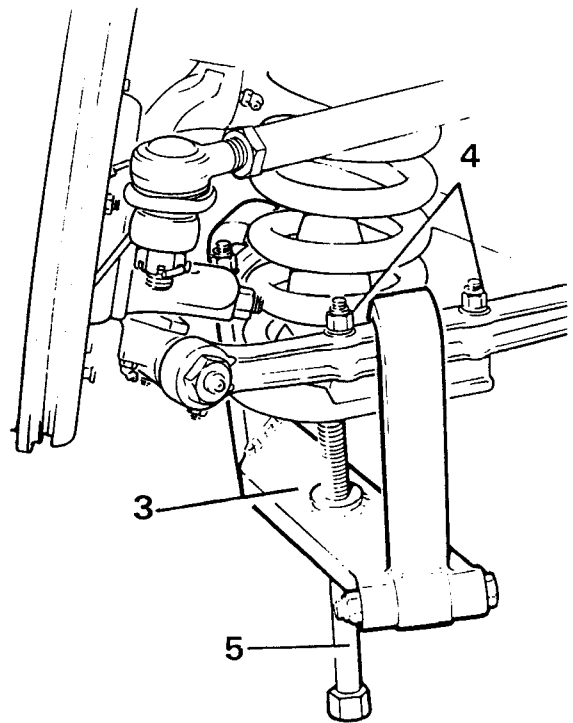

Figure 3
3. Position tool FX 3088 on the spring. See figure 3. Ensure that the tool is rigid.